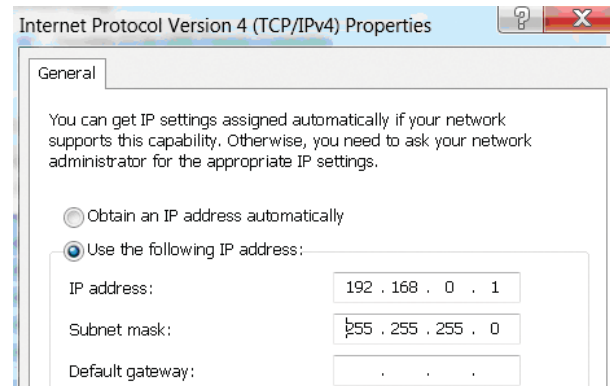

Figure 9-7 Internet Protocol (TCP/IP) Static Addressing
- b. If the IP was not automatically assigned, then configure the IP address as in Figure 9-7.